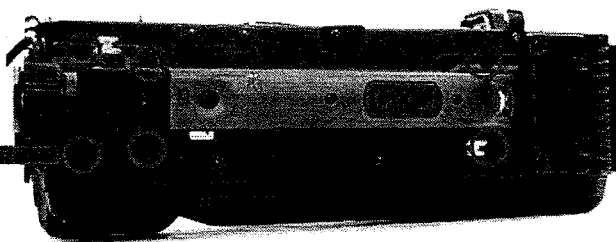

Figure 14-5
2. Paint SCREW LOCK at the screw hole (6 places) as shown in figure 14-5.